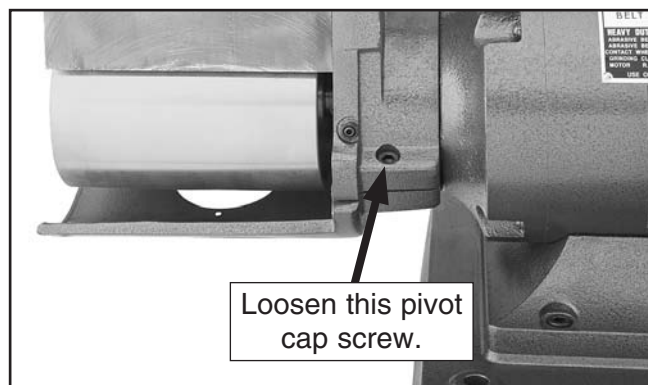

Figure 48. Location of the cap screw that secures the rotation of the belt assembly.
3. If the sanding belt assembly is not already horizontal, loosen the cap screw shown in **Figure 48** and lower the assembly to the horizontal position.